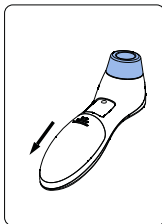

Figure 8
2. Slide battery cover down as shown in Figure 8.